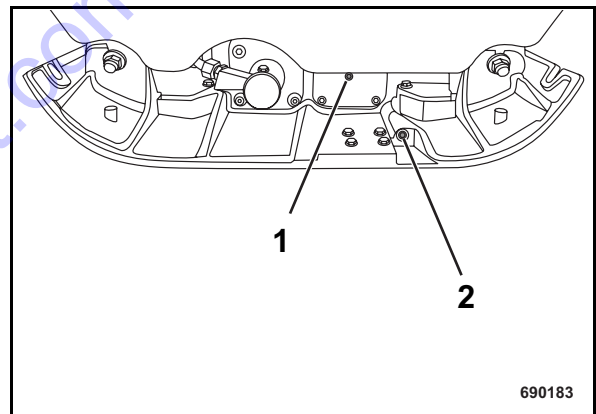

Fig. 73
- Clean oil drain (2) (Fig. 73) and bleeding screw (1) and assemble both screws with sealing compound (e.g. BOMAG part-no. 00970016).